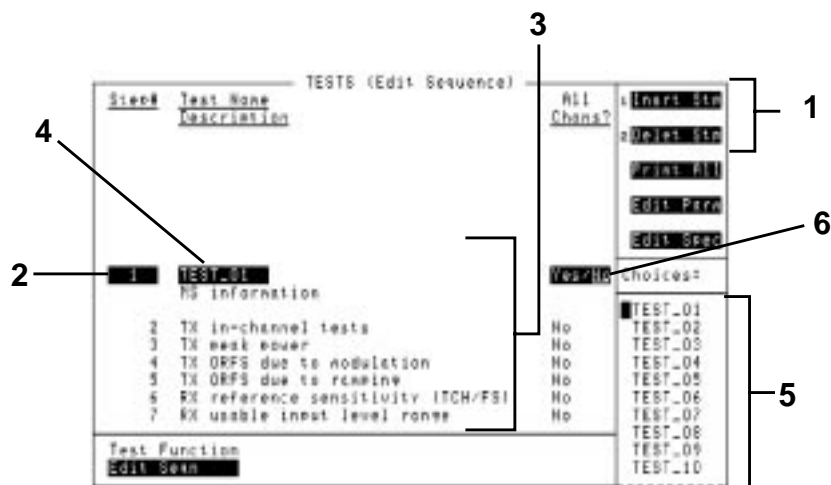

Figure 8-14 Test-Sequence Screen
- 1 Select the Edit Seqn field. A test-sequence screen similar to that shown in Figure 8-14 on page 8-33 appears.
- 2 Select the Insrt Stp field or Delet Stp field as needed to insert or delete tests on the screen. Refer to item (1) in Figure 8-14 on page 8-33.
- 4 Select the **Test Name** field and turn the knob to select the desired test. Refer to item (4) in Figure 8-14 on page 8-33. (As you turn the knob, the test name and description changes along with the test number shown in the **Choices** menu.)